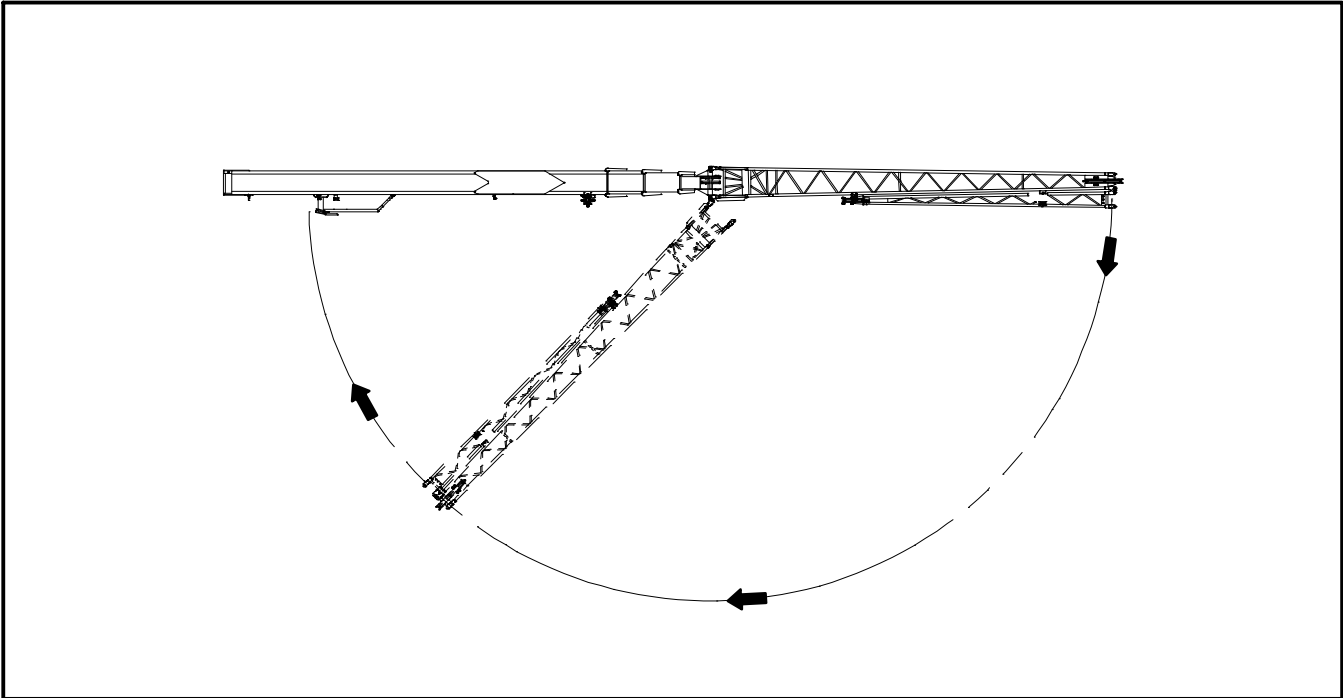

Figure 4–152
16. Remove the inside bottom right fly base connecting pin on the right side of the fly. To reduce loading and ease pin removal, push the fly to the right. Refer to Figure 4–151. Remove the inside top right fly base connecting pin on the right side of the fly. To reduce loading and ease pin removal push the fly to the left. Store the two pins and keepers in the storage rings on the rear right side of the fly base section.
18. Attach a hand line to the tip of the fly base section. Slowly swing the fly base section around to the right side of the boom while slowly booming up to 50°. Refer to Figure 4–152.